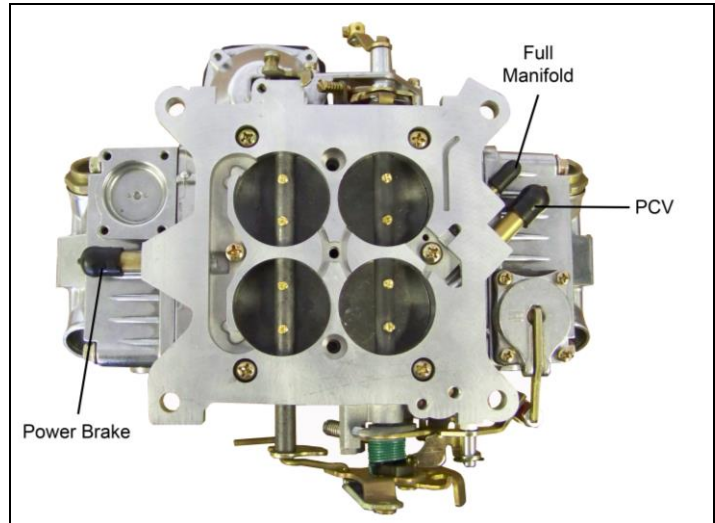

Figure 8
1. Attach the vacuum gauge to a manifold vacuum port on the throttle body (Figure 8).